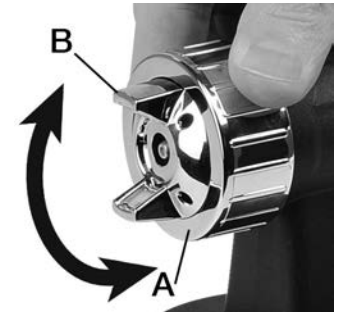

Figure 3
- 2) Loosen the nozzle cap locking nut (A) Fig.3.
- 3) Adjust position of the nozzle cap (B) to obtain the vertical, horizontal or round pattern.
Top to bottom position: Horizontal spray pattern. Fig.3.